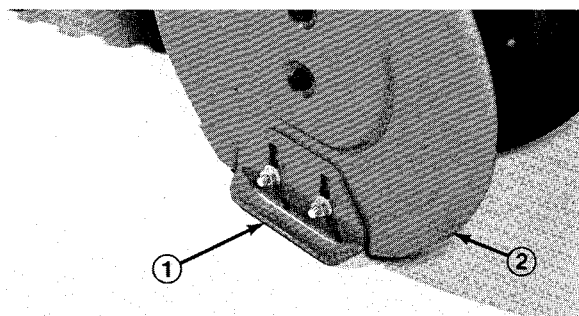

Figure 27
1. Move snowthrower to a level surface. Next, loosen four flange nuts (Fig. 27) securing both skids to auger side plates. Skids must slide up and down.